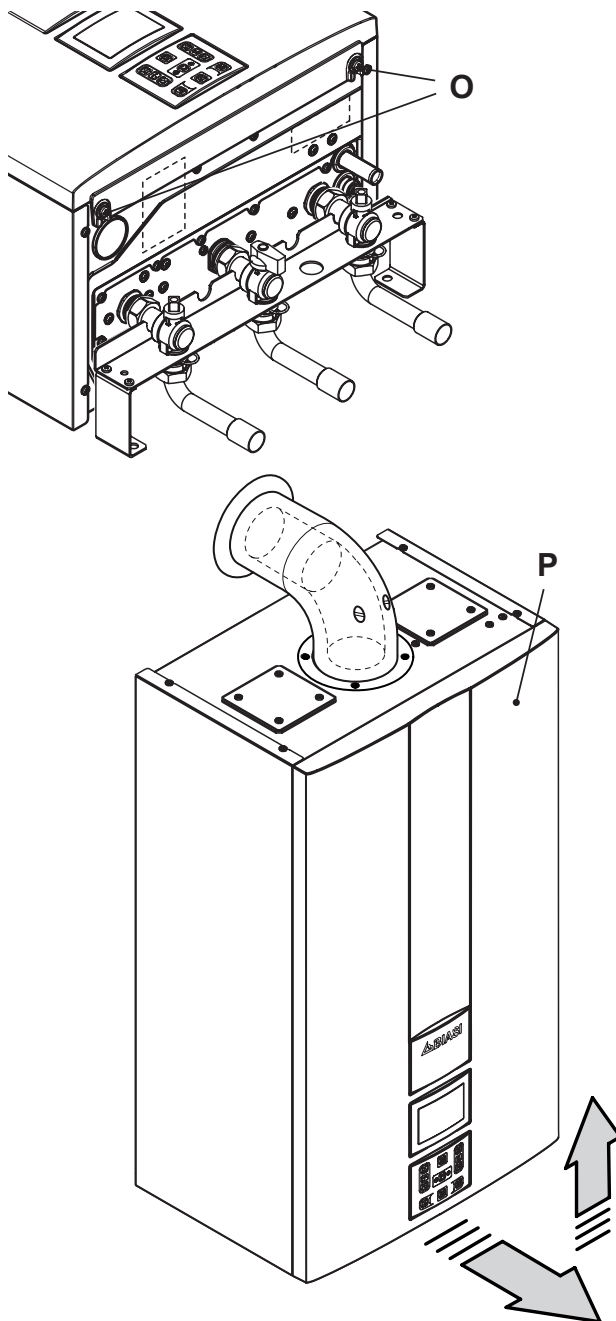

Fig. 6.14
- Unscrew screws "O" and remove the front panel "P" by pulling it and pushing it towards the top so that it is freed from the top housing Fig. 6.14.